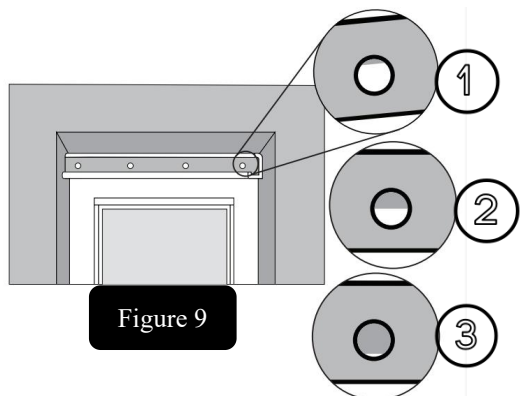
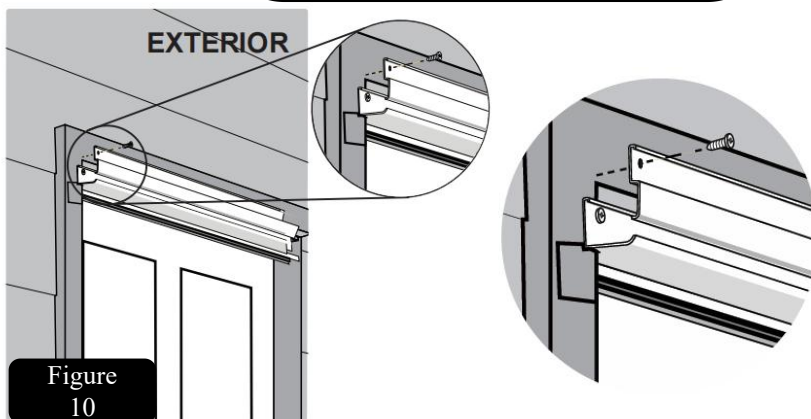

Figure 9
Figure 10
**Step 2:** Look at the holes of the rain cap. If the mounting surface can be seen in the ENTIRE hole (Figure 8), fasten the rain cap using short white screws. If the mounting surface cannot be seen in the entire hole as situation ①, ② or ③ shown in figure 9 (Figure 9), proceed to install the rain cap extender (Figure 10).